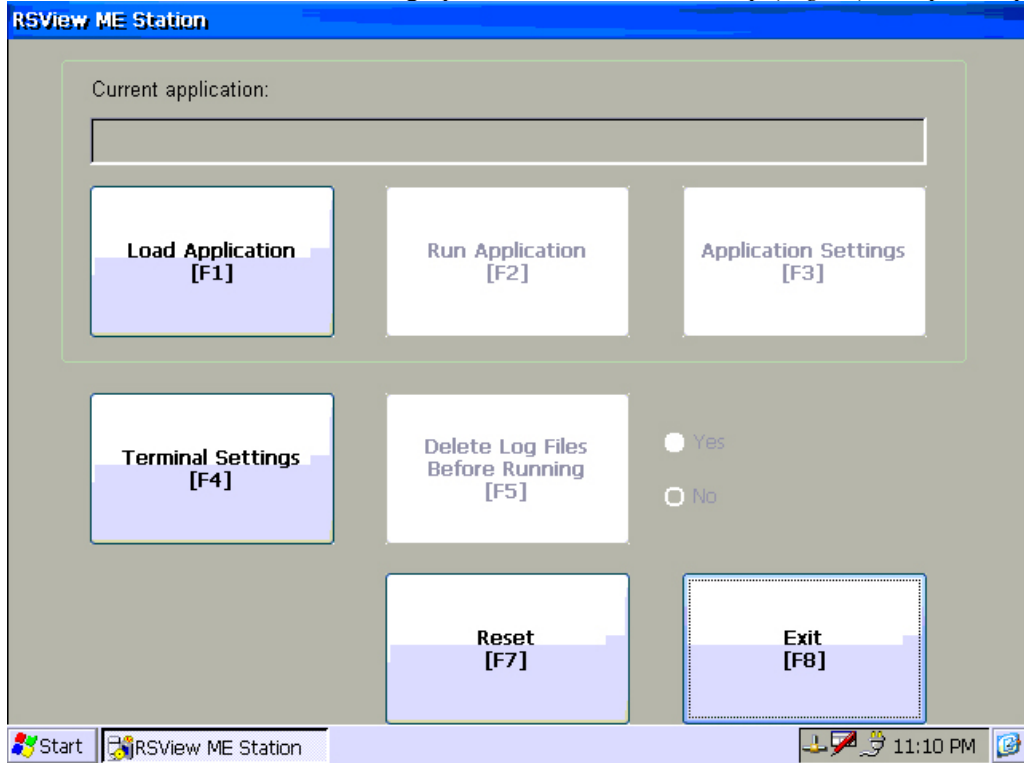

Fig 12
6. If the VersaView boots to the RSView ME Station screen with an “Exit [F8]” button (Fig 12), press the “Exit [F8]” button to bring up the Windows CE desktop (Fig 11). Skip to step 26.
24. The RSView ME Station Screen with an “**Exit [F8]**” button (*Fig 12*) will appear.
33. If the VersaView boots to the RSVIEW ME Station screen (*Fig 12*), press the “**Exit [F8]**” button to bring up the Windows CE desktop (*Fig 11*).
5. The RSView ME Station Screen (Fig 12) will appear.
14. The RSView ME Station Screen will appear (*Fig 12*).